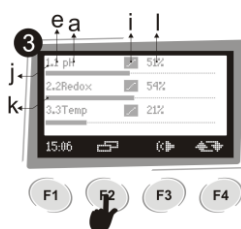

Figure 18/ 3rd Main display Page
Page (3) includes analog outputs information. This page is displayable only if analog outputs are active. Analog outputs for control device are functional. See: Figure 18/ 3rd Main display Page Figure 18.